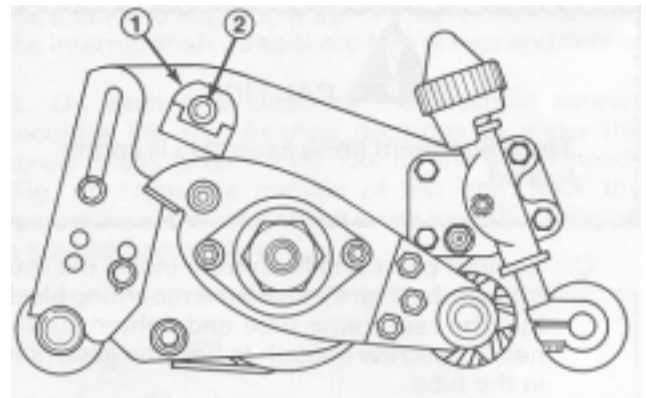

Figure 12
13. Remove the carriage bolt and quick up ramp. Hold the mounting block in position and tighten the allen head set screw to secure the mounting block assembly into the cutting unit cross tube (Fig. 12).